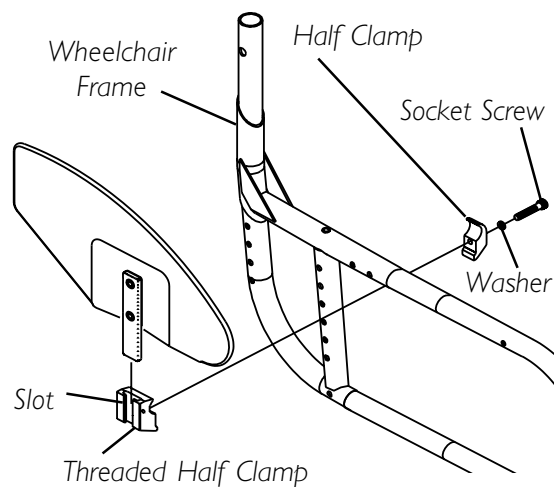

FIGURE 5 - INSTALLING RIGID CLOTHING GUARDS
INSTALLING RIGID CLOTHING GUARDS (FIGURE 5)
3. Determine the desired rigid clothing guard position and securely tighten the two (2) half clamps together with the socket screw.
4. Insert the rigid clothing guard into the slot on the threaded half clamp as shown in FIGURE 5.